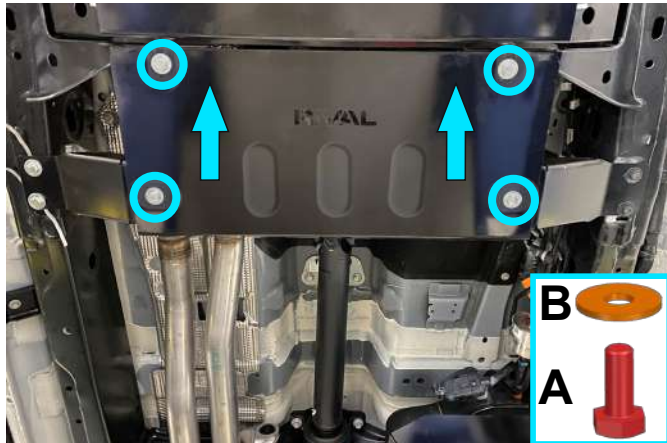

Fig. 9
8. Put transfer case skid plate (item 1) on installed bolts M10x25 and washers 10 from step 7. Fix the rear part of skid plate to mount bracket, using bolts M10x25 (item A) and washers 10 (item B), as shown in fig.9.